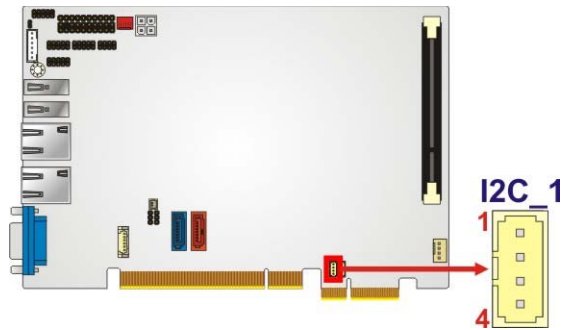

Figure 3-9: I2C Connector Location
- CN Location:** See **Figure 3-9**